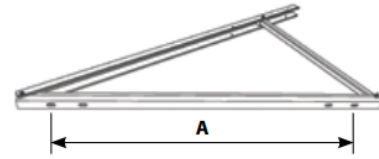

Fig 4.1.3A: Pre-drill hole for screw connection
- I. Pre-drill the bottom support of the A Frame with 0.55mm tolerance over the screw diameter of 6.2mm as shown in Fig 4.1.3A.